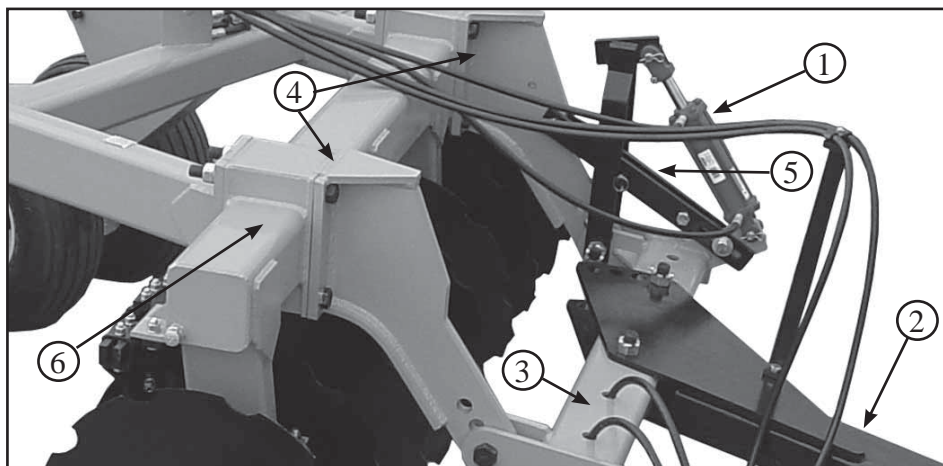

Figure 16
4.5 STARTING IN THE FIELD (Fig. 16 & 17)